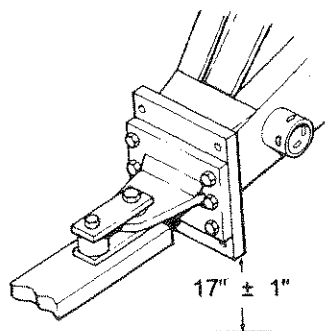

Fig. 2
3. The baler can be equipped or modified as required to work with tractors using either a 1 3/8" or 1 3/4" diameter PTO shaft. The tractor drawbar must be adjusted to provide the proper distance from the end of the tractor PTO shaft to the center of the hitch pin. Follow the SAE standards in Fig 2 and Table 1 for correct adjustment of the tractor drawbar.